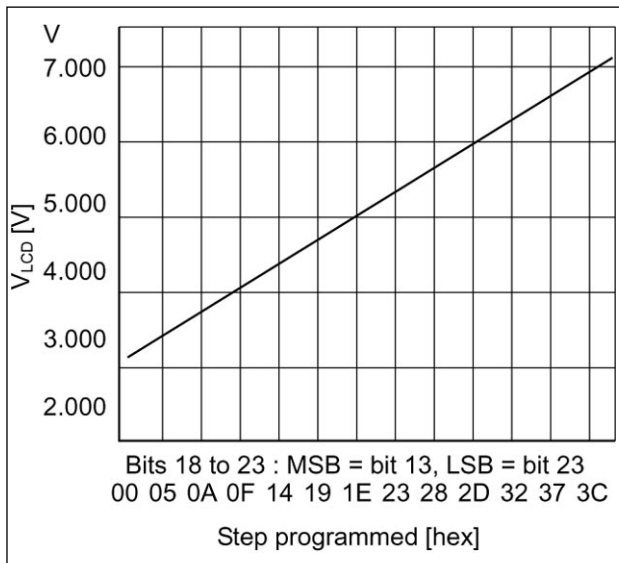

Fig. 8
**Init.bit 18-23:** VLCD 64 steps programming bits. See Fig. 8.
| 18 - 23: $V_{LCD}$ step | See Fig. 8   |   |